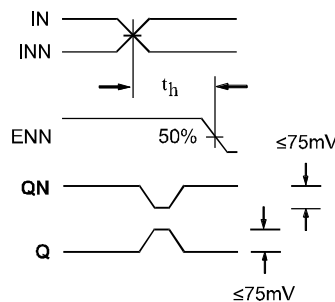

Figure 2. Hold Time
- The hold time is the minimum time that ENN must remain asserted after a negative going IN or a positive going INN to prevent an output response greater than ± 75 mV to that IN/INN transition (see Figure 2).